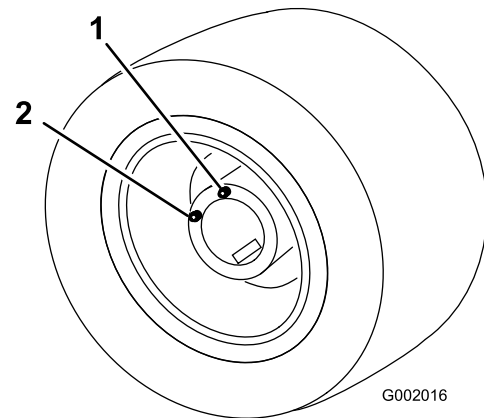

Figure 85
5. Move the vehicle slowly until the wheel is positioned as shown in Figure 85.